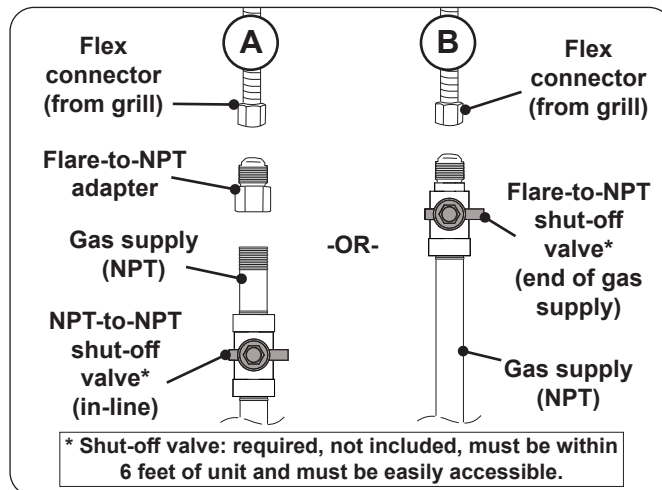

Fig. 31-2 Connecting to a gas line
- Install the supplied flare-to-NPT adapter to the gas supply (NPT) using a pipe joint compound resistant to all gasses (see Fig. 31-2, A). Tighten securely.
- Connect the flex connector to the adapter (see Fig. 31-2, A). Tighten securely.
- Connect the flex connector to the shut-off valve (flare) (see Fig. 31-2, B). Tighten securely.